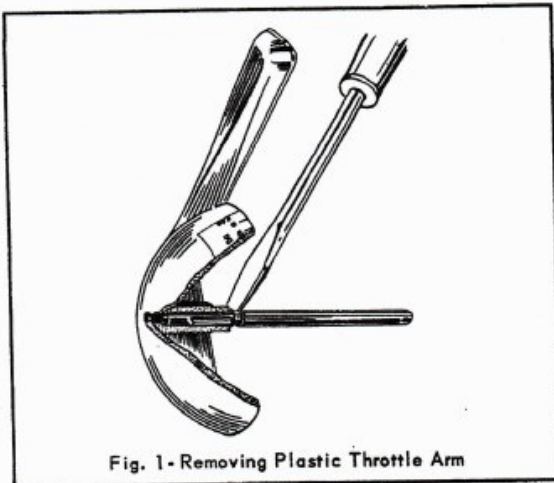
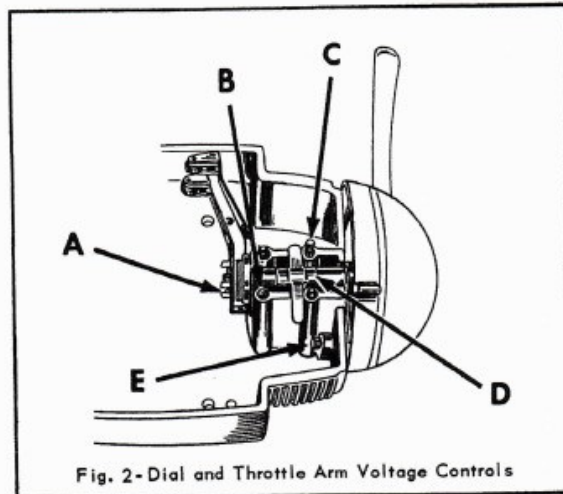

Fig. 1 - Removing Plastic Throttle Arm
Fig. 2 - Dial and Throttle Arm Voltage Controls
2. To remove the entire throttle arm assembly illustrated in Figure 1 pull out pin "A" in Figure 2 with a pair of pliers.